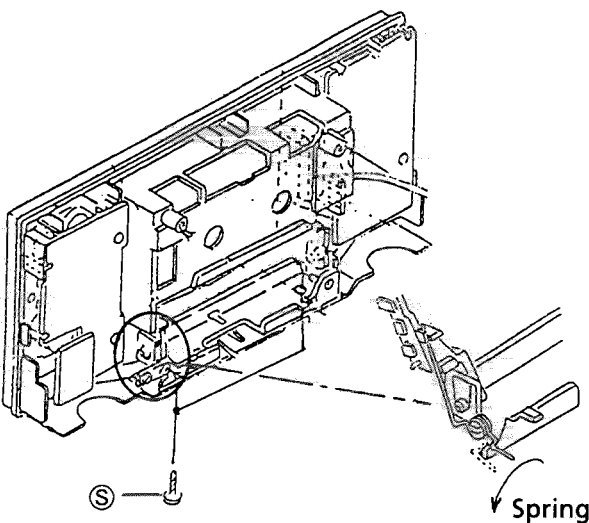

Fig. 11 Rear view
3. Remove the spring. (Fig.11)